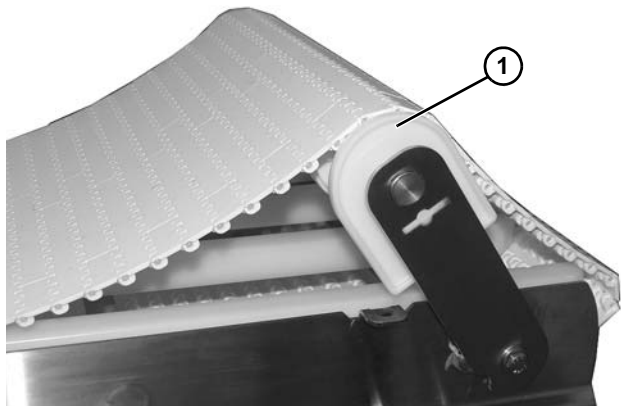

Figure 45
3. Rotate idler end (Figure 45, item 1) upward as shown.